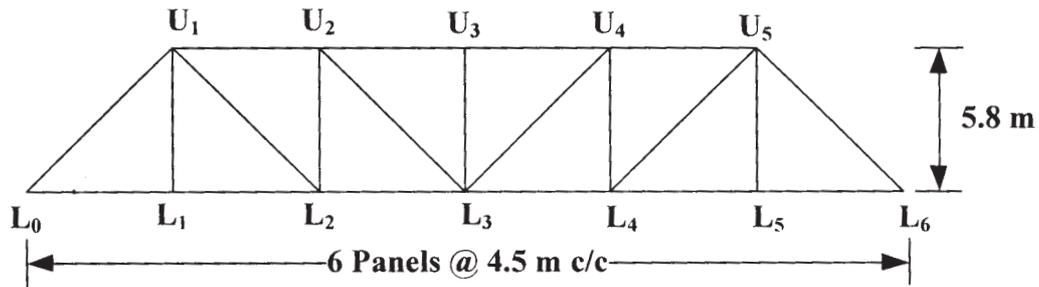

Fig. 7
- Q7)** Design the members  $U_1 - U_1$ ,  $U_2L_1$  and  $U_1-L_2$  for the railway steel truss bridge shown in Fig. 7. Also draw a neat sketch of the connection of members at  $U_1$ .
- Q8)** For the railway bridge shown in Fig. 7, design the top and bottom lateral bracing with the given data.